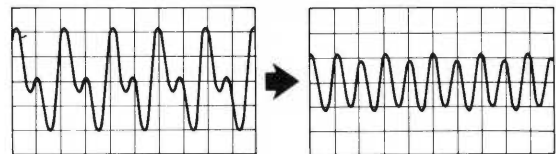

Fig. 4-6-7
- 4) Adjust the half-fixed resistor R715 (\sim R745) in a way that waveform of TP-13 (\sim TP-43) terminal turns to a sine wave with 200Hz as shown in Fig. 4-6-7.
- 5) Check TP-13 (\sim TP-53) waveform outputs a sine wave of 200 Hz as shown in Fig. 4-6-7.